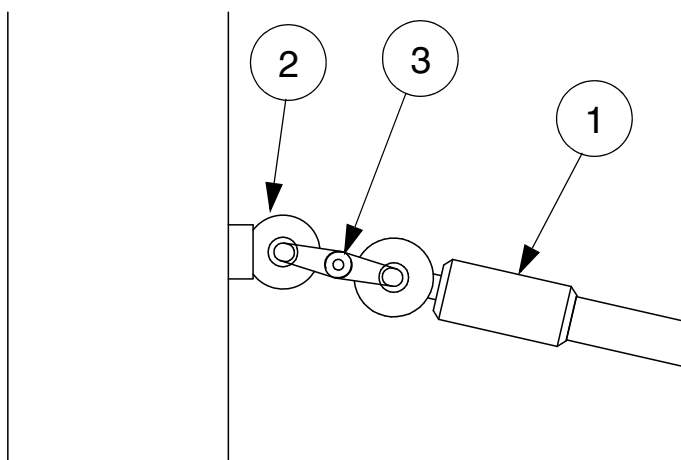

FIG.8
- viii) Attach rope (item 1) to support posts (item 4) using 2 off coupling links (item 3). FIG.8.